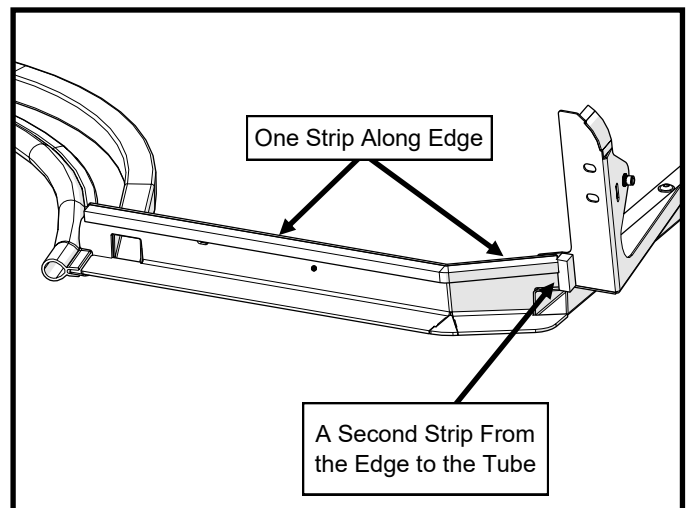

Figure 24: Install Foam Gasket
(4) 5/16ID x 1.25" OD Steel Fender Washers
24. Locate the left sideframe and install the supplied foam gasket along the bottom of the floorboard as shown in figure 24.